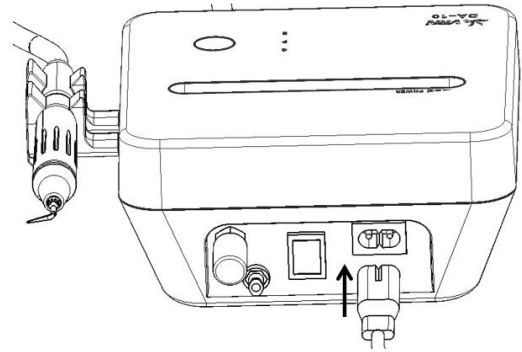

Figure 2.4
6) Power off the device, then connect the output of the power cord to the device, and then connect the input of the power cord to the electric supply(See Figure 2.4).